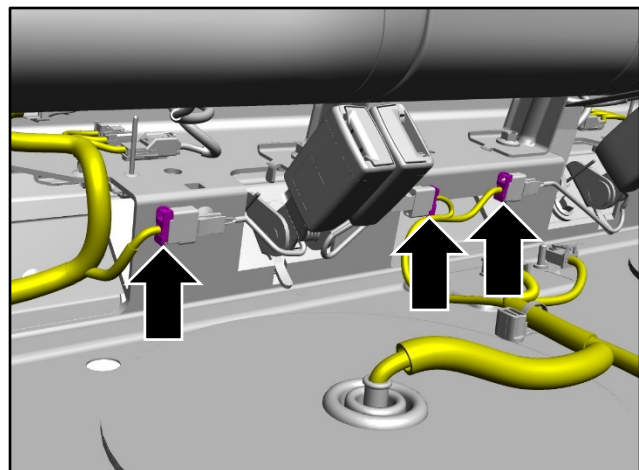

Figure 1
2. Disconnect the three electrical connectors (refer to Figure 1).